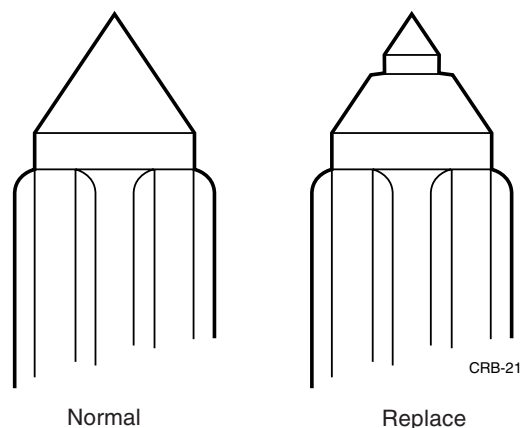

Figure 3.22 Inlet needle
- Inspect the inlet needle for signs of measureable wear or distortion at the tip or shank, and replace if noted (Figure 3.22).